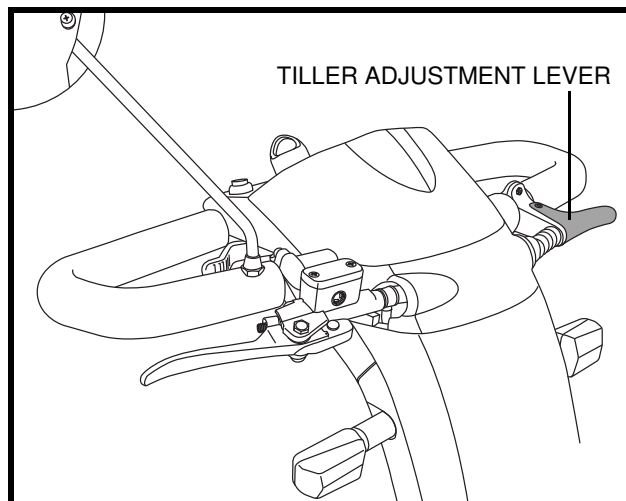

Figure 15. Tiller Adjustment
1. Squeeze the tiller adjustment lever. See figure 15.